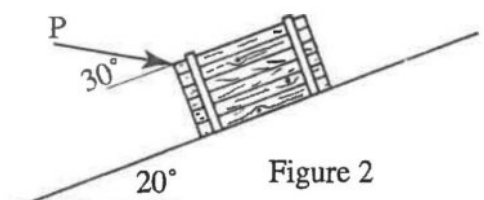

Figure 2
- Calculate the force P if the block is just on the verge of moving up the plane when P acts towards the plane as shown in figure 2.